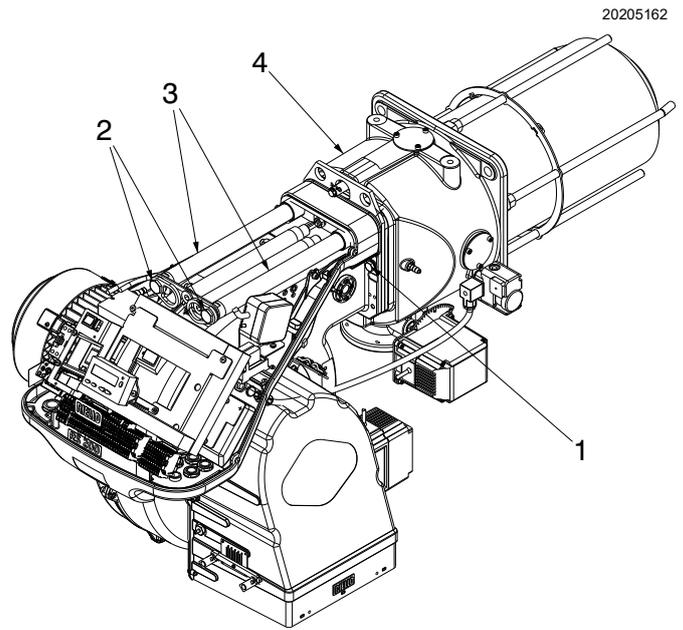

Fig. 24
The combustion head is closed by turning the screw 1) clockwise (Fig. 24 on page 25).
- fit the electrode cable and then slide the burner up to the pipe coupling, the burner in the position indicated in Fig. 24;
- fix the burner to the pipe coupling with the screw 1)(Fig. 24).